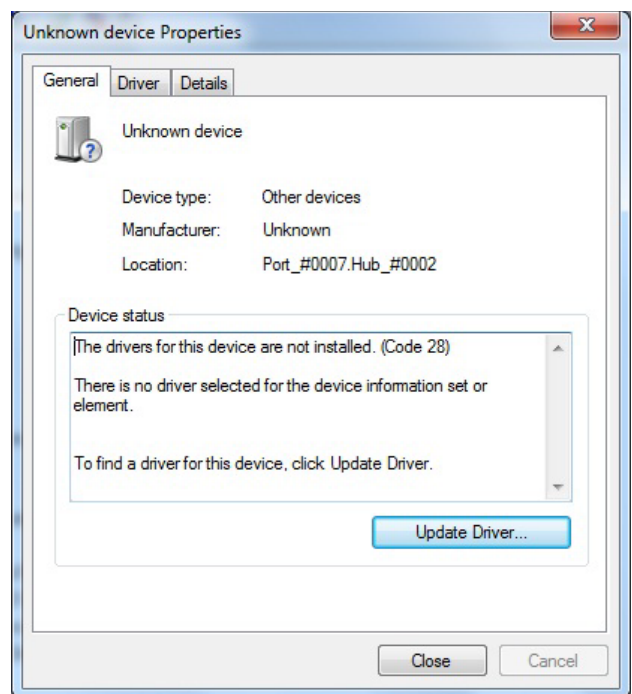

Figure 6. Unknown Device Properties
2. Click **Update Driver** in the properties window (see Figure 6).